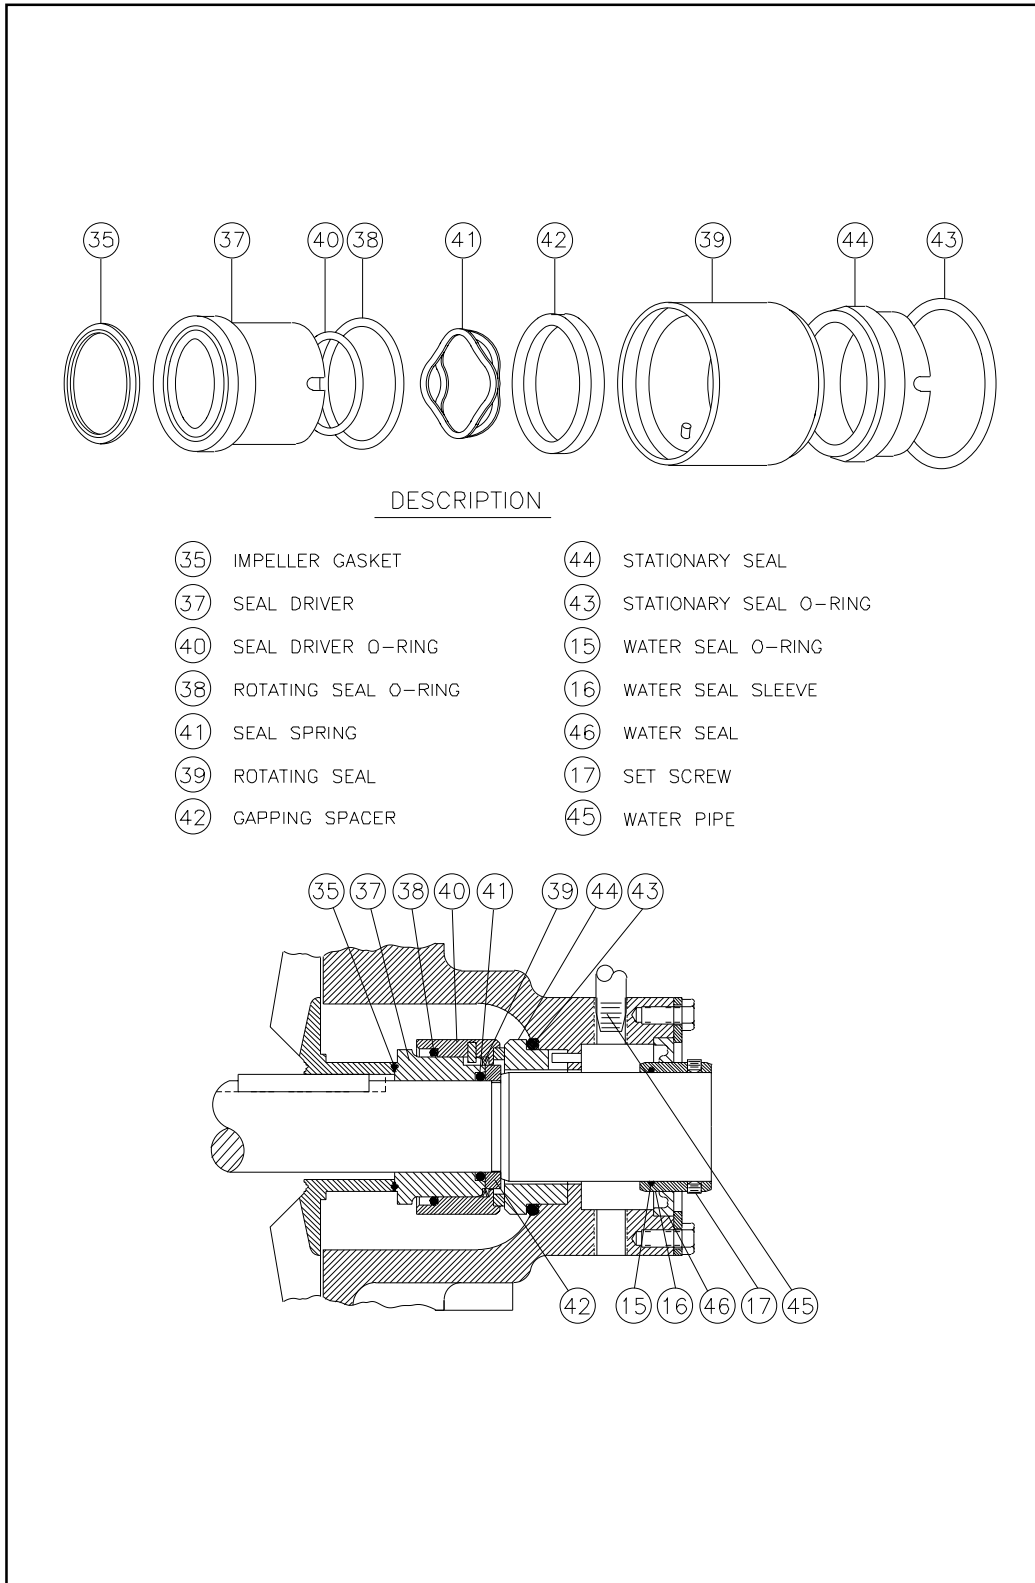

Figure 10: FM Seal Assembly
You are now ready to install the new seals into the pump (Figure 10, page 18). With the pump housing still sitting on the housing studs, carefully press the new water seal (46) into the pump housing. Replace the retaining ring (47) onto the hub of the pump housing and install the four retaining ring bolts (48). Tighten with the 7/16" wrench to 5 ft. lbs.